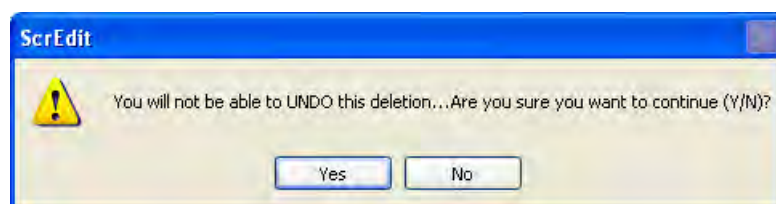

Fig. 3-9-7 Cut Screen message
**Please note that the user cannot undo the action of cut screen. It is the same as delete screen that screen will be lost but it can be pasted from the clipboard to recover (Fig.3-9-7).**